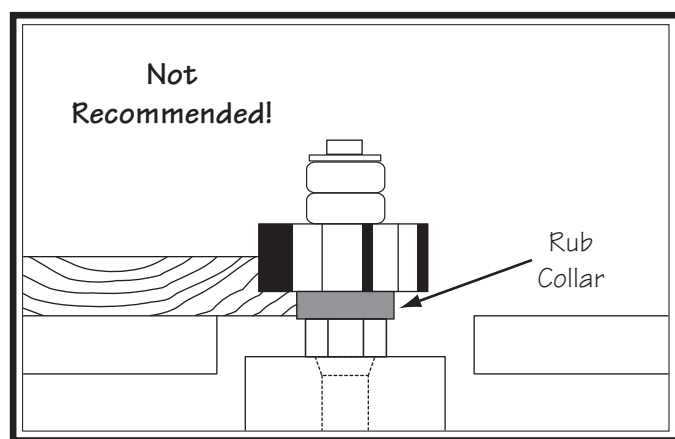

Figure 52. Cutting with rub collar below cutter.
1. **Rub collar below cutter:** When rub collar is placed below cutter, as shown in **Figure 52**, progress of the cut can be observed. However, any unintentional movement may lift workpiece into the cutter, damaging your work and creating a dangerous situation. We **DO NOT** recommend using rub collar in this position.